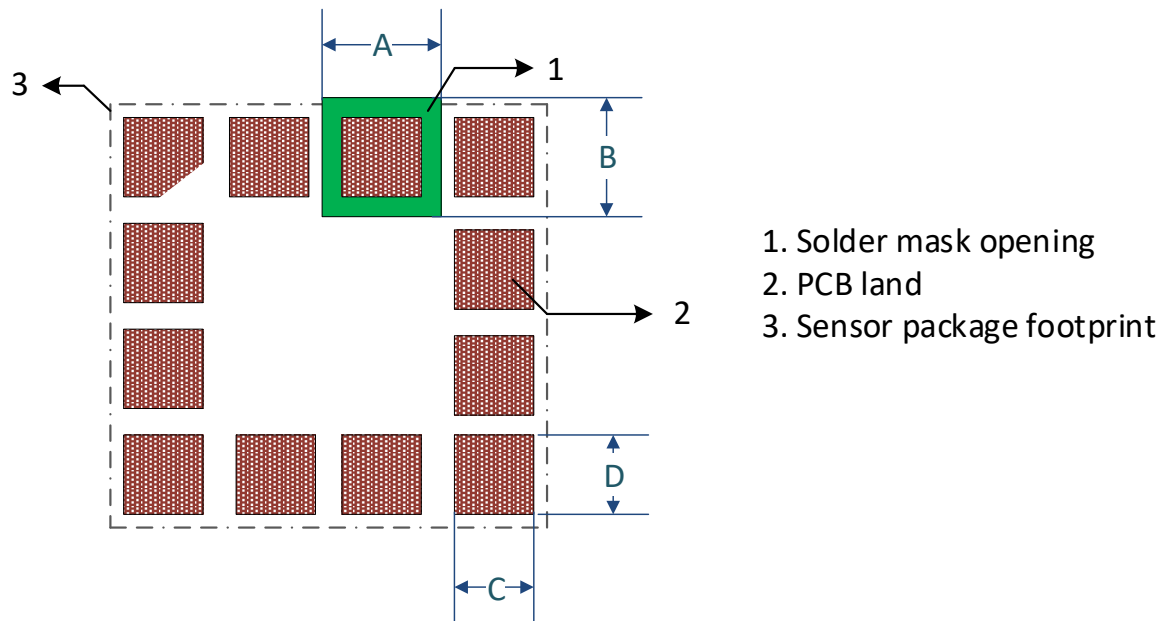

Figure 7: PCB land and solder mask recommendations for sensors with LGA package
- The solder mask opening external to the PCB land is highly recommended. Please refer to figure 7.